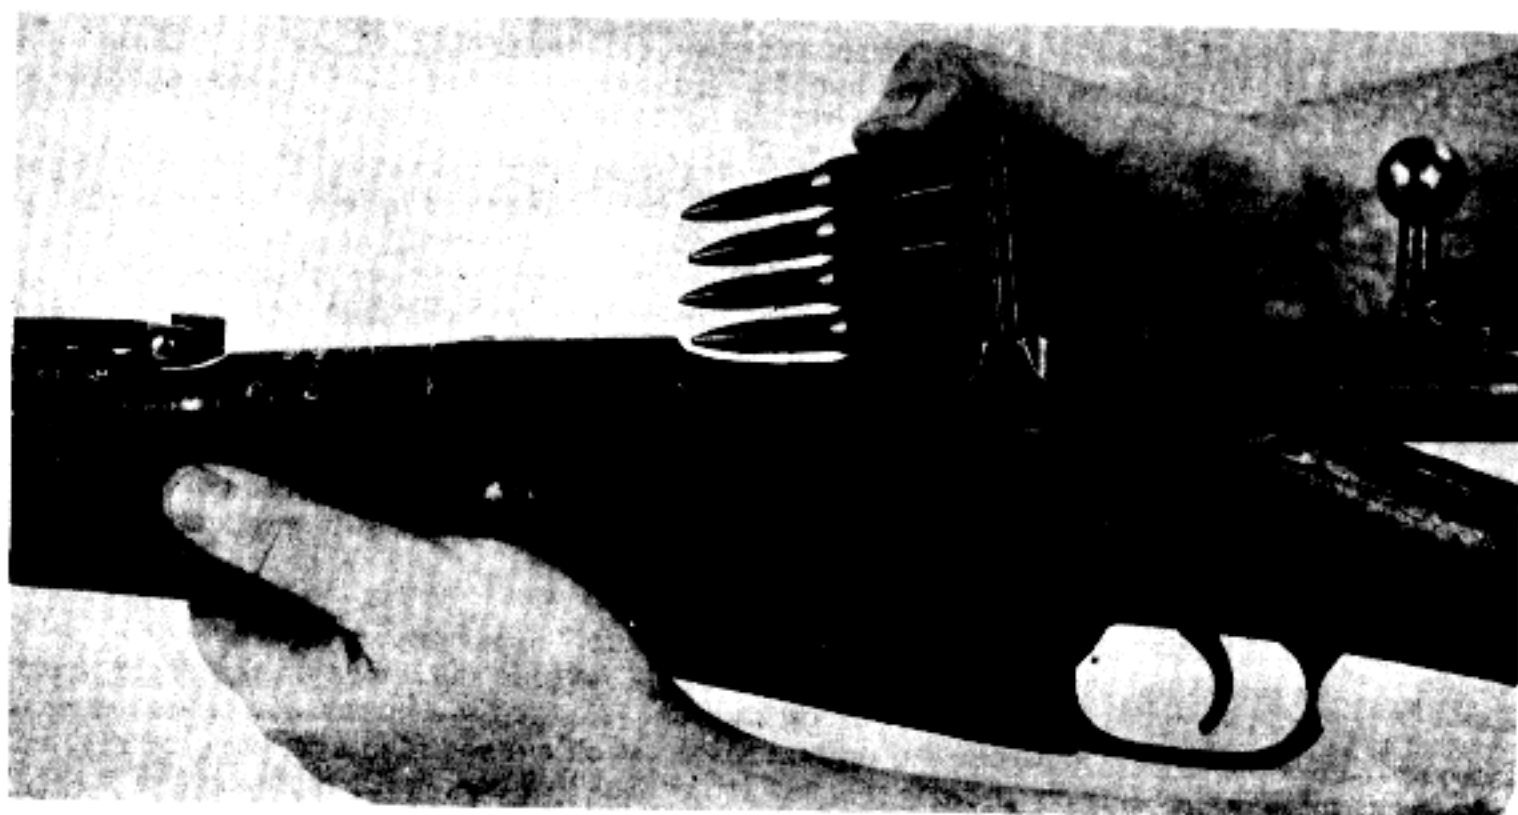
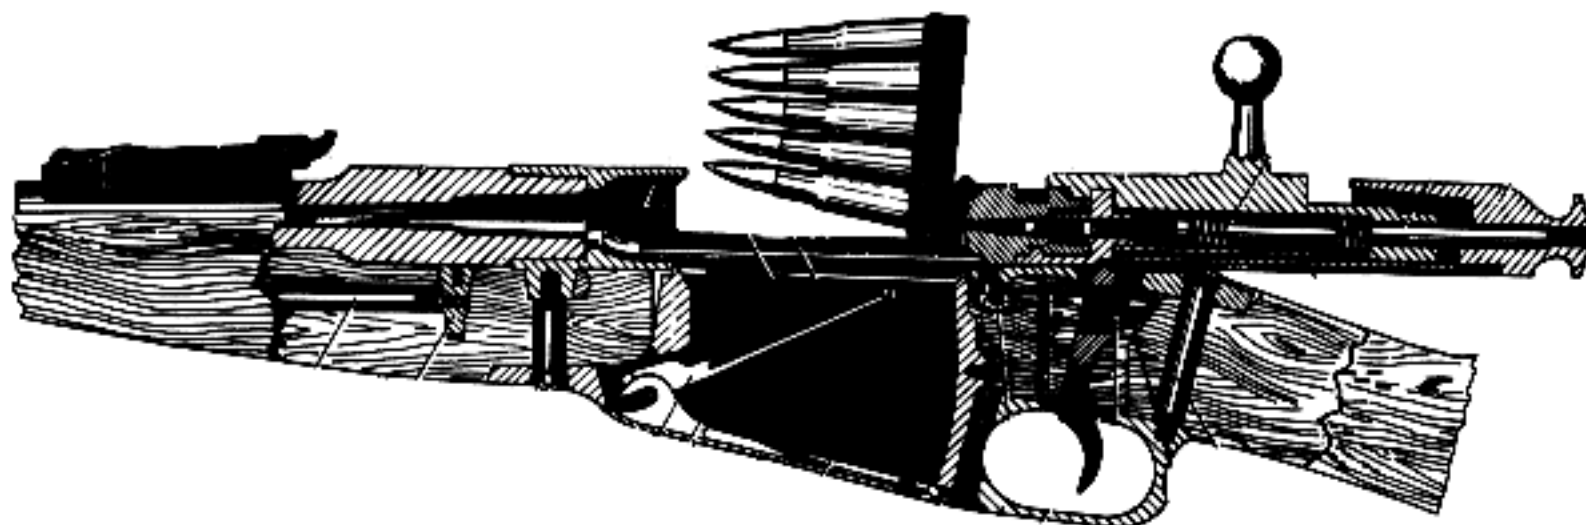
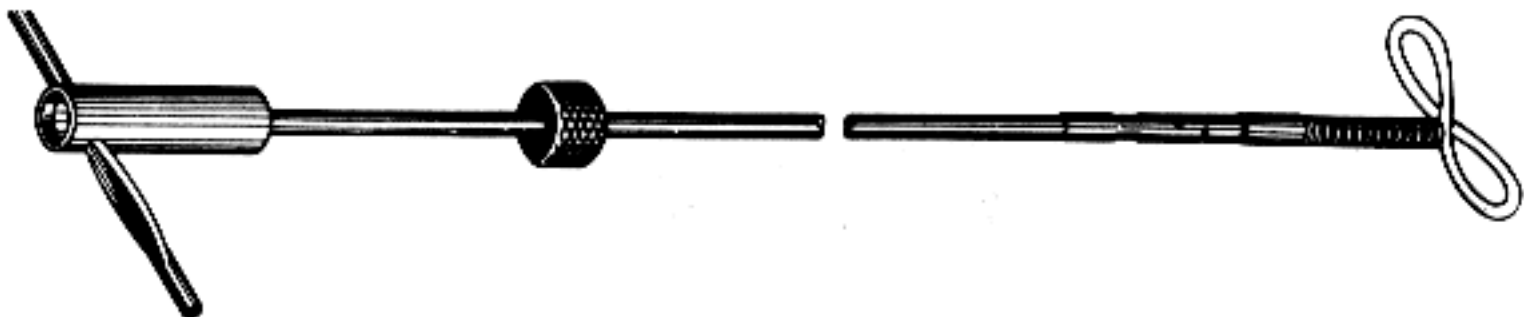

FIGURE 36. CLIP-LOADING THE RIFLE.
FIGURE 37. POSITION OF PARTS PRIOR TO LOADING THE RIFLE.
FIGURE 40. CLEANING ROD ASSEMBLY.
b. The rifle M1891 is loaded in the same manner as the United States Springfield or any Mauser rifle. Open the bolt, place a clip of cartridges in the clip guides, and press the rounds down into the magazine (fig. 36). Close the bolt; the clip will then fall out of the clip guides onto the ground. The position of the rifle parts before and after loading is illustrated in figures 37 and 38. Before squeezing the trigger, observe all the safety precautions used when firing United States rifles.
Each Mosin-Nagant bolt action rifle and carbine is provided with a one-piece cleaning rod (fig. 40) which is fitted in the stock. The rod is threaded on the end to take the tapped retaining nut embedded in the stock just below the chamber (fig. 37). An accessory pouch (fig. 41) is carried by each rifleman. It contains a screwdriver, oil can, cleaning rod head, cleaning rod brush, cleaning rod attachment, rod collar, and cleaning rod stop (fig. 42). There are variations in the design of the oil can and screwdriver (fig. 43).